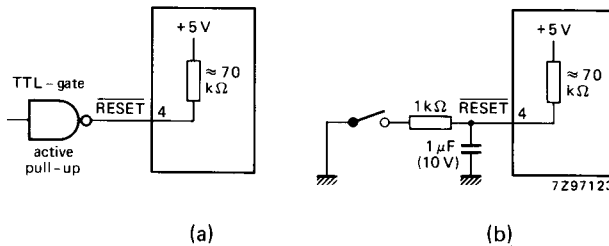

Fig. 9 An external reset is shown in (a) and power-on reset in (b).
**$\overline{\text{RESET}}$**  (see Fig. 9)